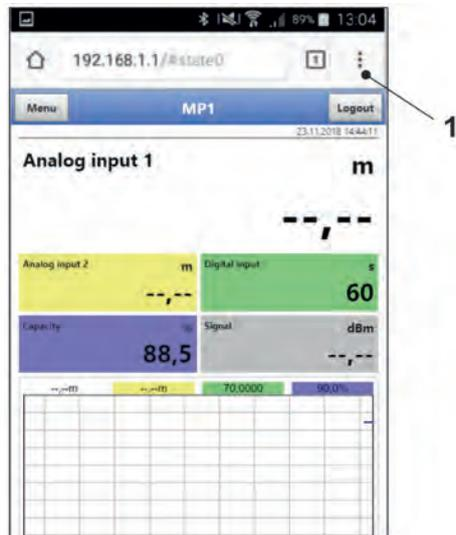

Fig. 30-15 Indication of NFM display in the browser
- Enter the IP address "192.168.1.1" in the address field and open. After successful connection the display of the NivuLevel Mobile (Fig. 30-15) is shown.